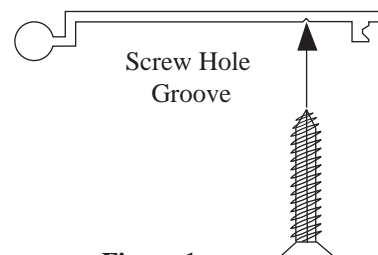

Figure 1
Drill three (3) 3/16" holes in the housing hinge, one approximately 2" from each end. One approximately in the middle. Locate the holes using the screw groove in the hinge (Figure 1). Note: Hole locations may be pre-drilled from the factory.